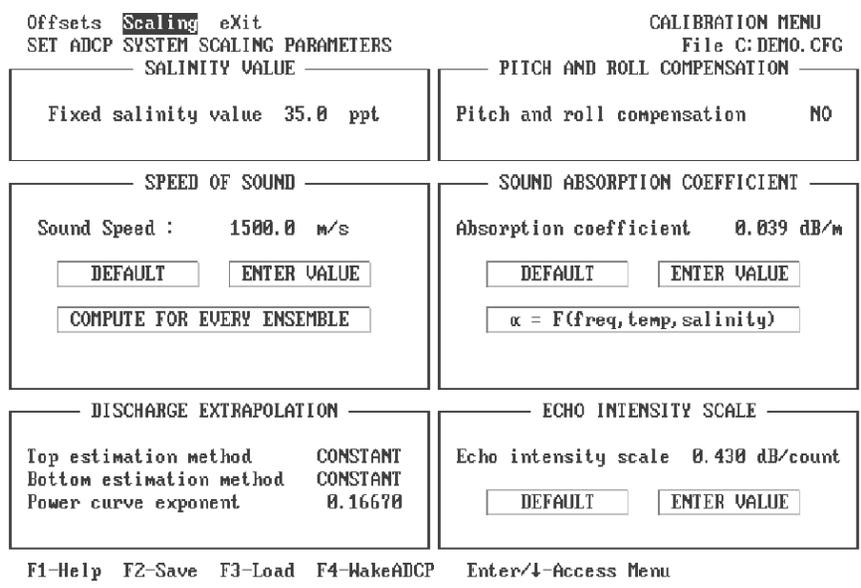

Figure 11. TRANSECT Calibration - Scaling Menu
- i. Press **aS** to select the **SCALING** submenu (Figure 11).